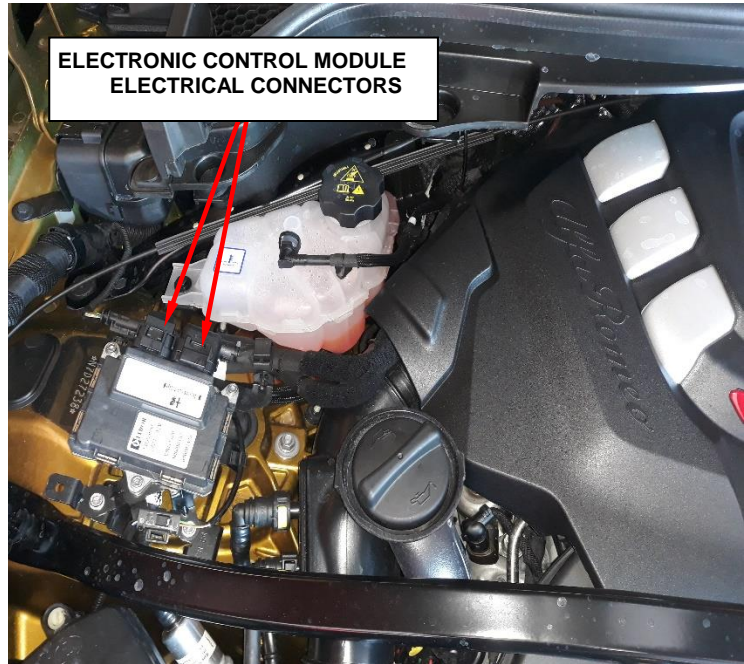

Figure 18 – Electronic Control Module
12. **If equipped:** Disconnect the left fender electronic control module electrical connectors (Figure 18).